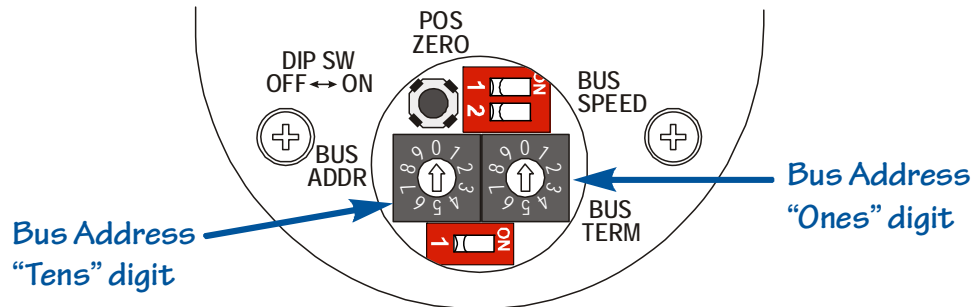

Figure 2.14 Address and Bus Value Switch Locations
The large plug on the back of the NR25 covers the switches that set the address of the NR25 on the DeviceNet bus. Figure 2.14 below shows the rear cover of the NR25 with the plug removed.
The bus address is set with the two rotary switches. When the NR25 is in the orientation shown in figure 2.14, the switch for the “tens” digits on the left and the switch for the “ones” digit is on the right. The valid address range is 00 to 63. Note that no two devices on a DeviceNet network can share the same address.
- The NR25 has an internal terminating resistor that can be turned on or off with the Bus Term switch shown in figure 2.14.
The large plug on the back of the NR25 covers a momentary push button that can be used to reset the position data to zero. See figure 2.14, *Address and Bus Value Switch Locations* on page 27 for the location of the switch.